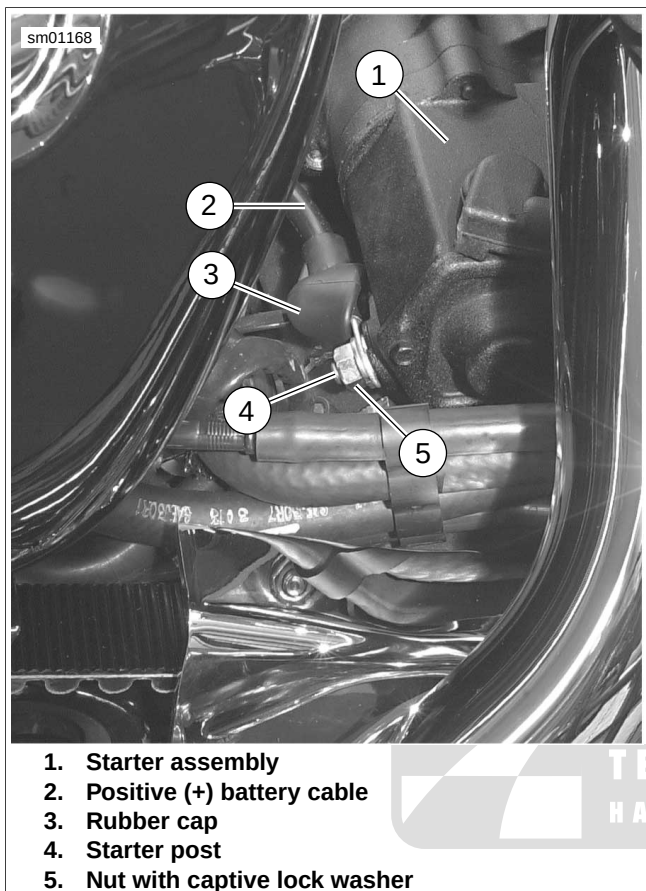

Figure 6-29. Positive (+) Cable Starter Post Connection:
8. See Figure 6-29. As required, pull back rubber cap (3) and using a 12 mm wrench, remove nut with captive lock washer (5) and positive (+) battery cable (2) from starter post (4).
6. Hook top of battery strap (3) to battery tray mount on top of battery. Install screw (6) and tighten to 36-60 **in-lbs** (4.1-6.8 Nm).
8. Hook main fuse cover (4) to pin on battery strap and slide forward until it snaps into place.
9. Hook data link connector [91A] (5) to pin on battery strap and slide forward until it snaps into place.
10. See Figure 6-29. Install positive (+) battery cable (2) and nut with captive lock washer (5) on starter post (4). Using a 12 mm wrench, tighten lock nut to 60-85 **in-lbs** (6.8-9.6 Nm).
11. Push rubber cap (3) over starter post.